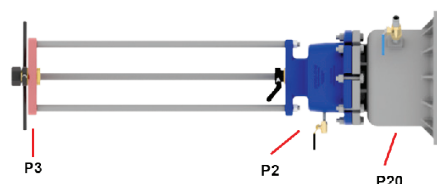

FIGURE 16
2.3.1) For 10"–12" Insta-Valve 250 only, bolt the Hydra-Tapper to the P-20 component using the bolts and nuts included with Hydra-Tapper equipment (see Figure 16).